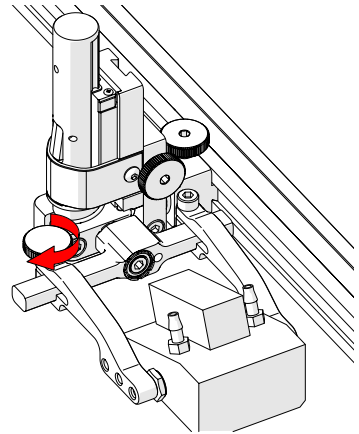

Fig. 126 - Tighten arm knob
6. Tighten the probe holder arm adjustment knob (Fig. 126).